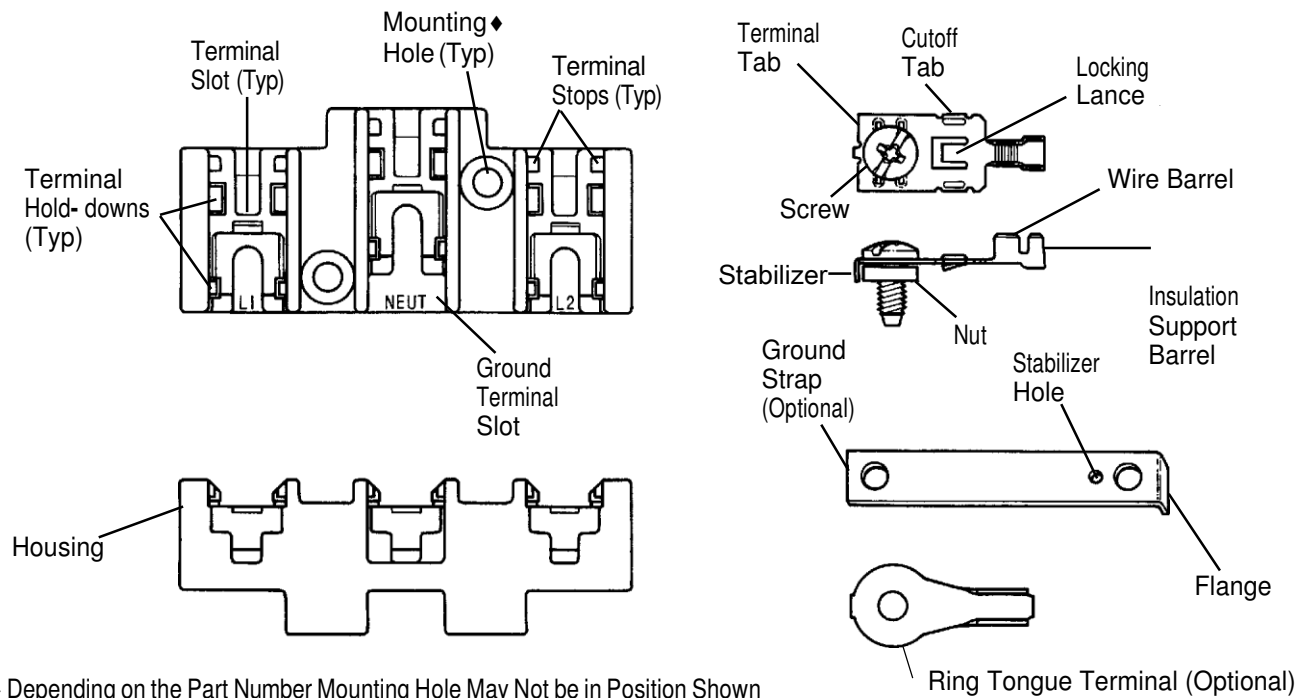

Figure 1
Each connector consists of a housing, two copper tone terminals, one silver tone terminal, a ground strap (optional), three screws, and three nuts. The housing features mounting holes and three terminal slots. The terminals feature a locking lance, a wire barrel, an insulation support barrel, and a tab for a screw and nut. There are wire barrel designs to cover a wide range of 18 through 10 AWG stranded copper wire. (Refer to the specific customer drawing for the appropriate wire size range.) The tab end will accept stranded copper household wire that is within a range of 6 through 10 AWG. This wire can be used unterminated, or it can be terminated with any precision formed or custom-made terminal with a maximum thickness of 3.175 mm [.125 in.]. See Figure 1 for optional Ring Tongue Terminal.
When corresponding with Tyco Electronics Personnel, use the terminology provided in this specification to facilitate your inquiries for information. Basic terms and features of this product are provided in Figure 1.
- Added new text to Figure 1, and Paragraphs 3.5.3 a, b, and c